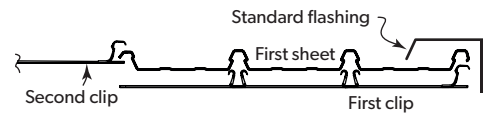

Figure 9.1.9
4. Align the clips using a string line (Figure 9.1.9) or the first sheet as a straight edge to align the clips as you fix a clip to each support working towards the high end of the roof.